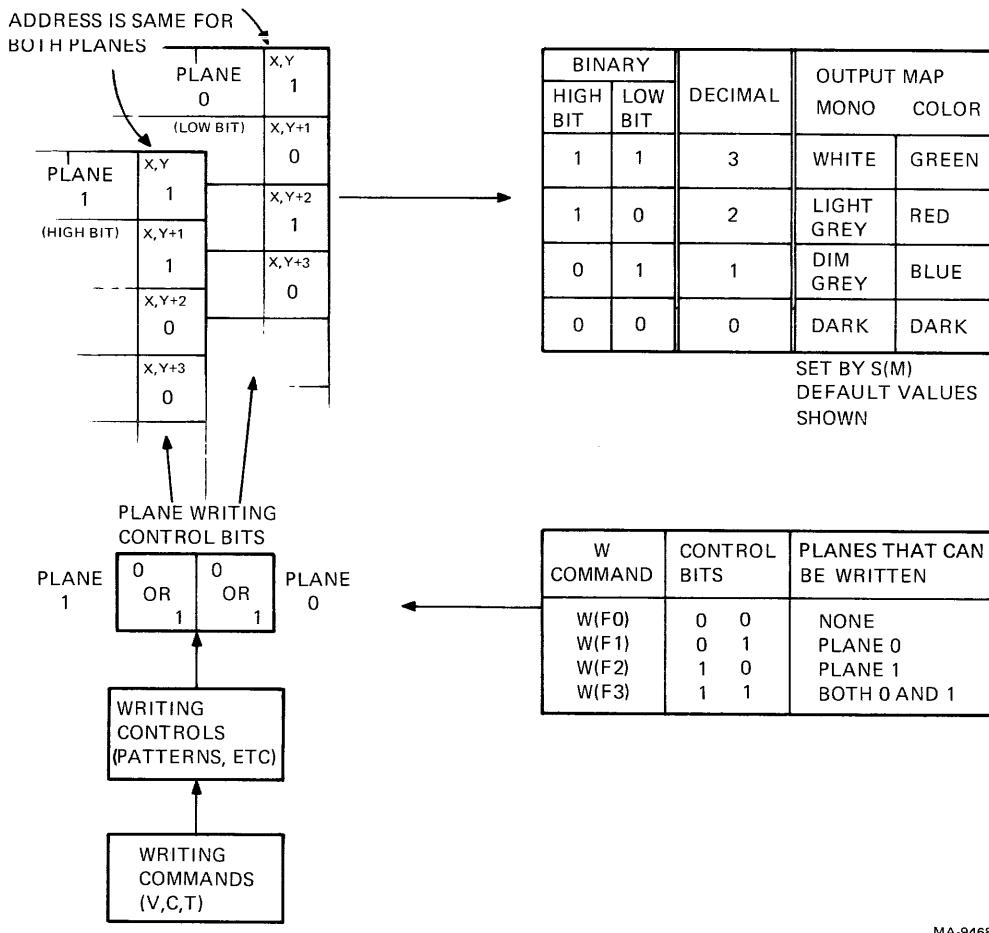

Figure 5-21 Foreground Planes and the Output Map
Each of the 196,608 pixels in the graphics processor has two bits in the display memory. Each bit is in one of two identical planes of bits that have addresses that correspond to the display's pixel addresses (Figure 5-21). The graphics processor uses both bits when it displays each pixel.
1. Suppose you want to use complement mode (perhaps because its effects are reversible by repeating the same command) to change an object from I3 (intensity 3) to I2. During complement writing, both bits are changed. When both bits change (Figure 5-21), the object changes from I3 to I0. But if you turn off plane 1 writing and only complement the low bit, you get I2. Or turn off plane 0 writing, only complement the high bit, and you get I1 from I3.
Figure 5-21 shows the process of writing to the graphic memory with pixels controlled by the writing commands. The writing commands select the individual pixels to be written, the pattern controls whether the selected pixel changes or not, and then the foreground plane command controls which of the two planes can be written. The four addresses that the two bits form in the planes are shown for pixels (x,y), (x,y+1), (x,y+2), and (x,y+3) in Figure 5-21. These addresses point to the four values of intensity and color stored in the output map.
Refer to Figure 5-21 to select the correct plane to write. Complementing a pixel means that the two bits in memory for that pixel are changed to their opposite values. Complementing both bits means that if the intensity is I3, its complement is I0, and if the intensity is I2, its complement is I1.
Refer to the binary to decimal conversion and the output map in Figure 5-21. Changing from I3 (white or green) to I2 (light grey or red) is a one bit change in plane 0 with no change in plane 1. But complement changes the bits in both planes. By using the foreground planes command to turn off writing to plane 1 (W(F1)), you can use the complement command to change pixels from I3 to I2.